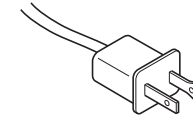

Figure 1
**POLARIZED PLUG INSTRUCTIONS** - To reduce the risk of electrical shock, this furnishing has a polarized plug (one blade is wider than the other) like the plug illustrated in Figure 1. This plug will fit in a polarized outlet only one way. If the plug does not fit fully in the outlet, reverse the plug. If it still does not fit, contact a qualified electrician to install the proper outlet. Do not change the plug in any way. This product is for use on a nominal 120-V circuit.